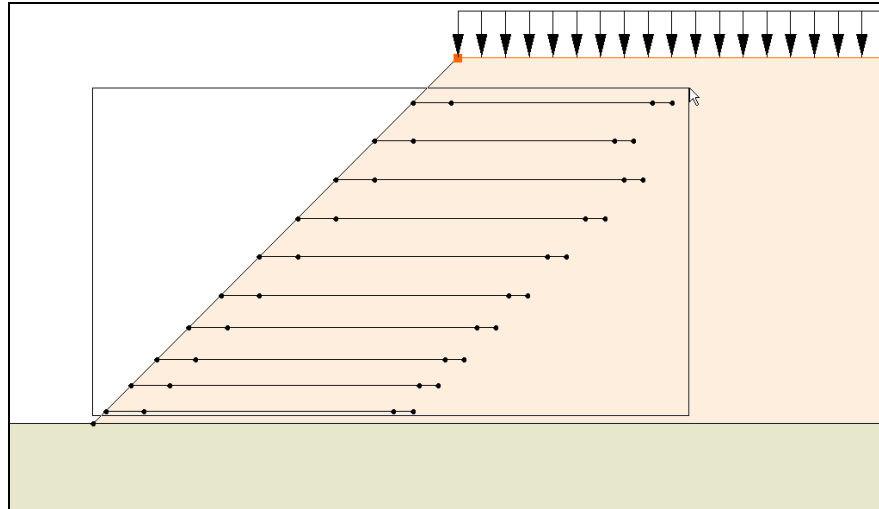

Figure 7. Selecting the reinforcement lines by dragging a box.
2. Select all the reinforcement arcs by dragging a box around all of them, as shown in Figure 7.